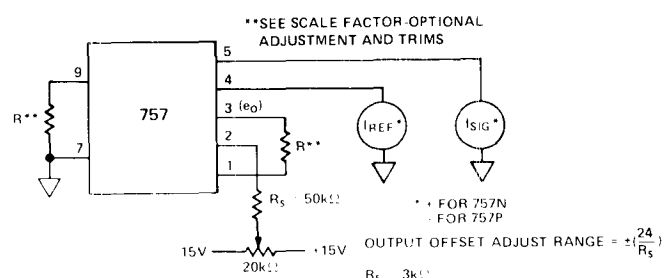

Figure 3. Output Voltage Offset Adjustments
**Output Voltage Offset** — Output voltage offset must be adjusted after the desired scale factor is established as indicated above. To adjust the offset, inject equal dc input currents into the reference and signal channels. The value of the input currents should approximate the average input current levels expected to be encountered in normal operation. Adjust the potentiometer shown in Figure 3 until the output voltage is zero.